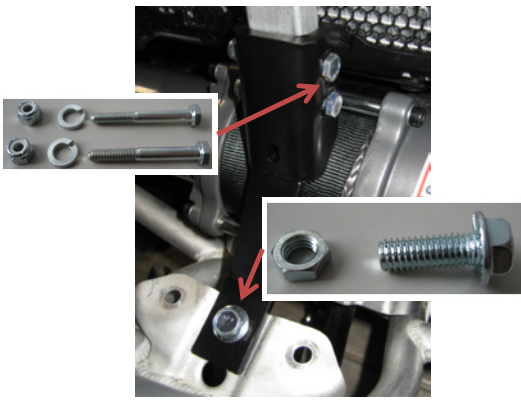

Figure 25
- Using the radiator support bracket and accompanying hardware, install the bracket as shown in Figure 25.